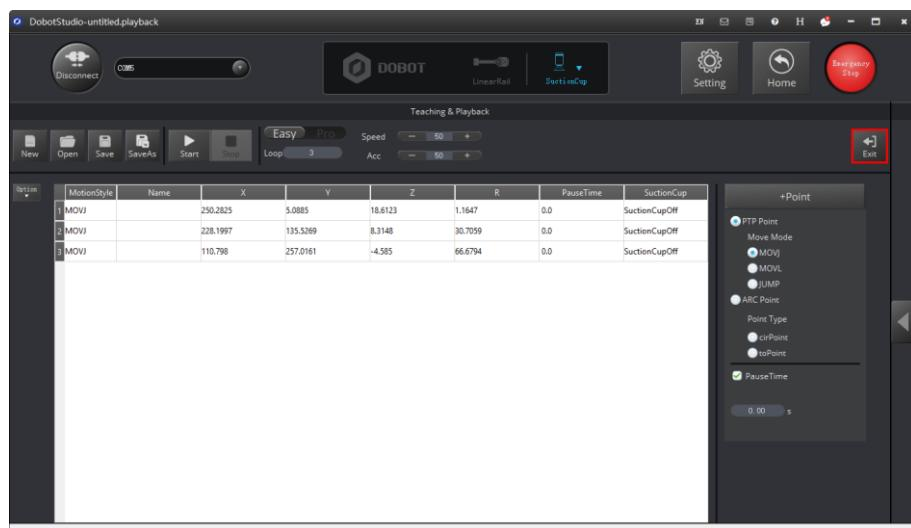

Figure 2.25 Click Exit
7. Click to exit the **Teaching & Playback** page, as shown in Figure 2.25.